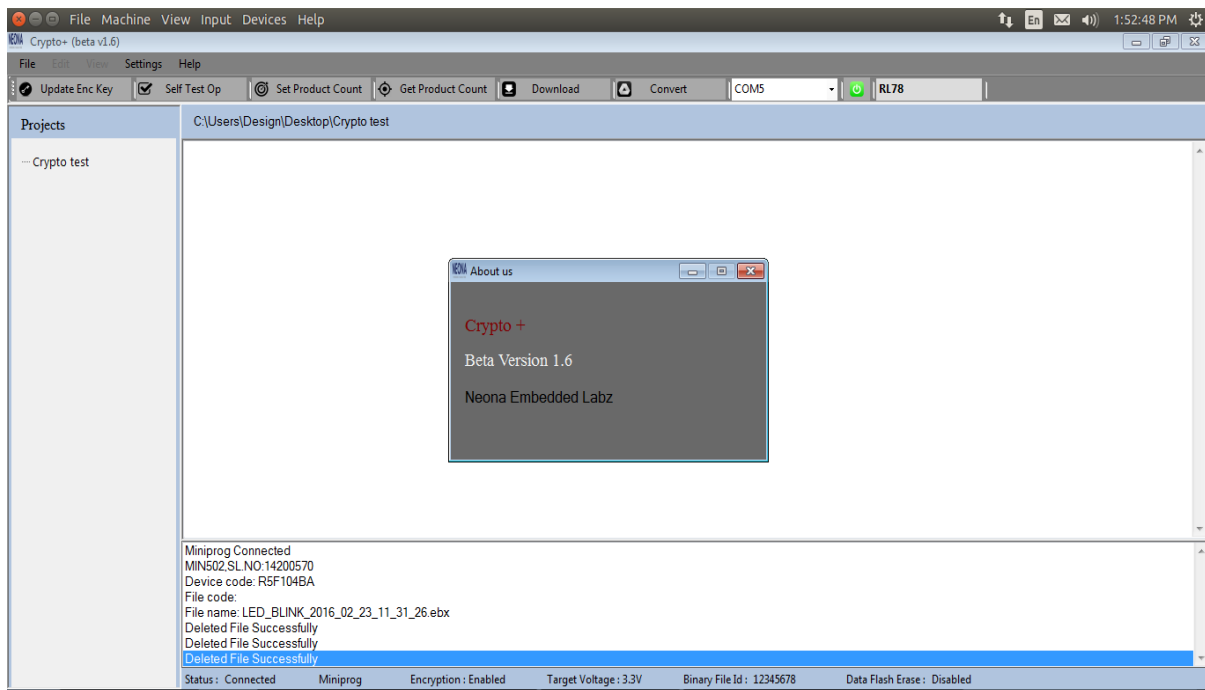

**Figure 2.45**
**STEP 7:** After completing firmware download, message ‘**Firmware File download finished**’ will be displayed in the text view as shown in figure 2.45.